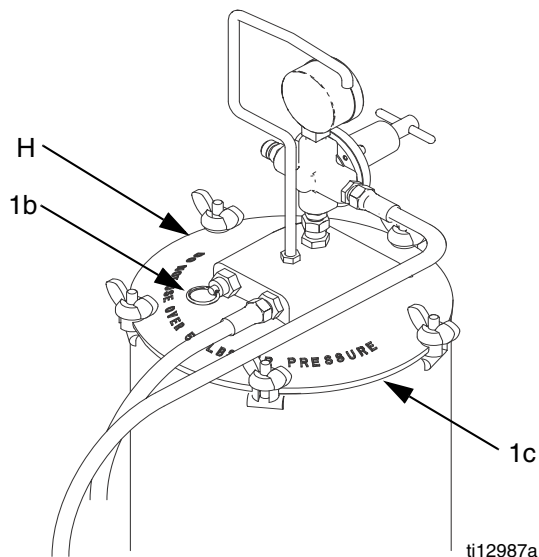

FIG. 5
2. Lift the pressure relief valve ring (1b) to open it. See FIG. 5.
3. When no air is escaping through the valve, unscrew the wing nuts and remove the tank cover (H).